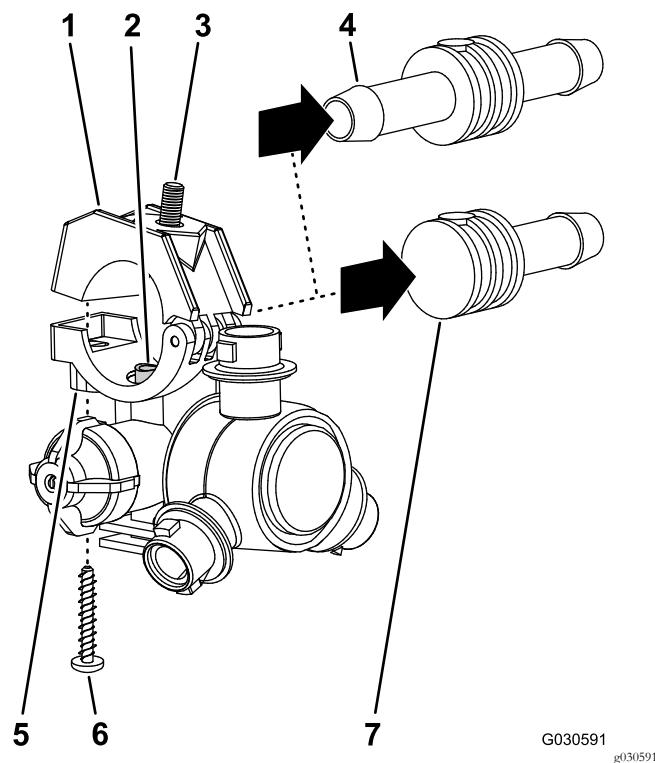

Figure 48
- Remove the stainless steel screw (#12 x 1-1/4 inches) that secures the upper clamp half and double or single barbed-hose shank (3/4 inch) to the body of the sprayer nozzle, and separate the barbed-hose shank and hose from the nozzle (Figure 48).